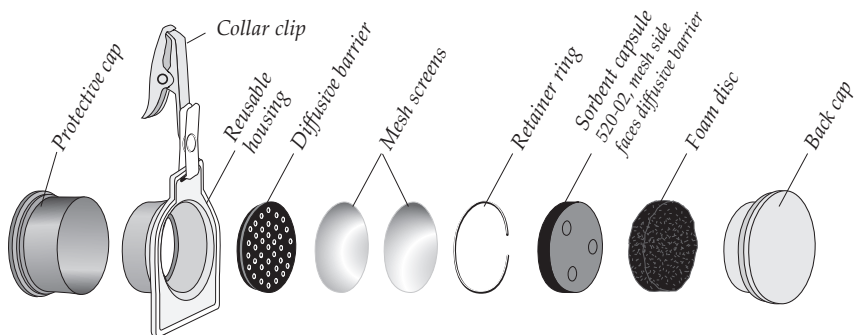

Figure 1. Complete Assembly of Passive Sampler for Elemental Mercury
5. Reassemble sampler housing for storage, without the sorbent capsule or foam disk (*see Figure 1*).